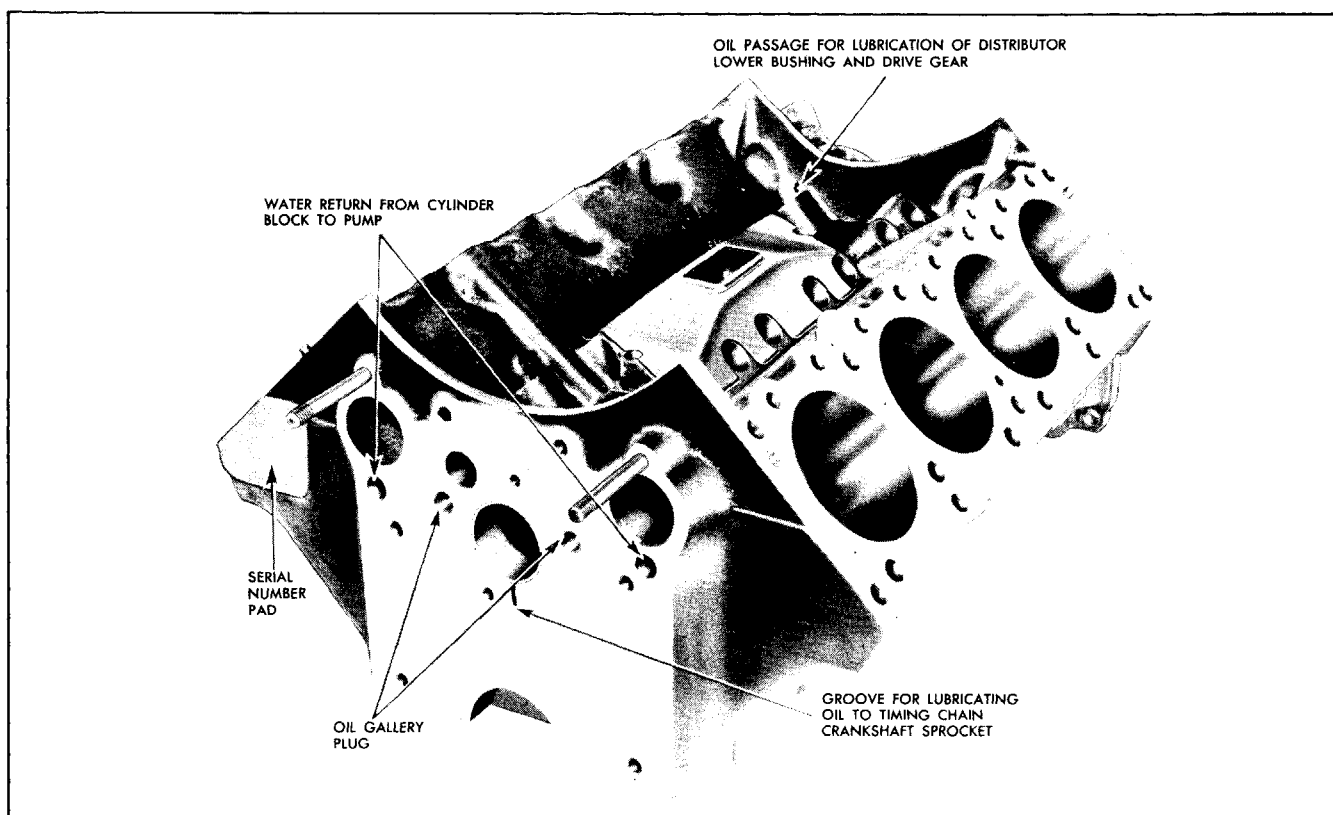

Fig. 6-53 Cylinder Block—Viewed from Left Front
3. Remove all oil passage plugs (Figs. 6-53 and 6-54).
g. Visually check passage from rear center camshaft bearing to left cylinder head and passage from front center camshaft bearing to right cylinder head (Figs. 6-53 and 6-54).